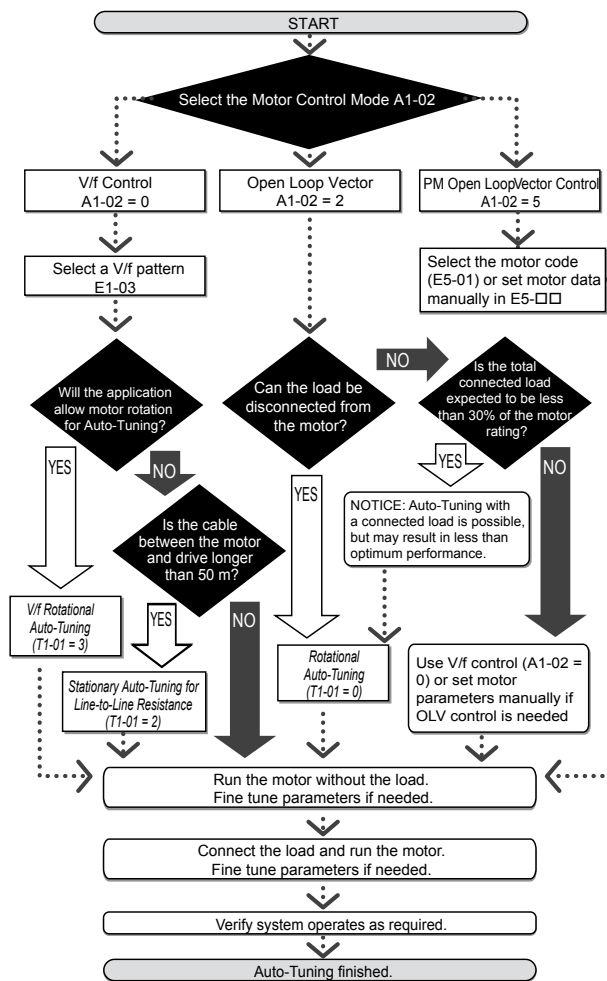

Figure 4.14 Auto-Tuning Selection
2. Determine which type of Auto-Tuning best fits the application requirements following Figure 4.14.